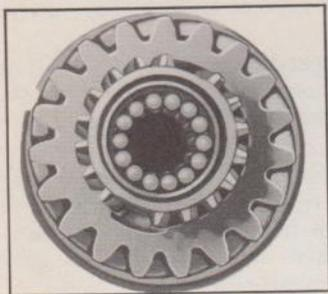

Fig. 13—Mainshaft Pilot Bearing Rollers in Clutch Gear
4. Place some cup grease in the mainshaft pilot hole in the clutch gear and install the 14 roller bearings, Fig. 13. After being assembled in the pilot hole, these bearings will lock themselves in place and cannot fall out. Install the clutch gear in the transmission case.